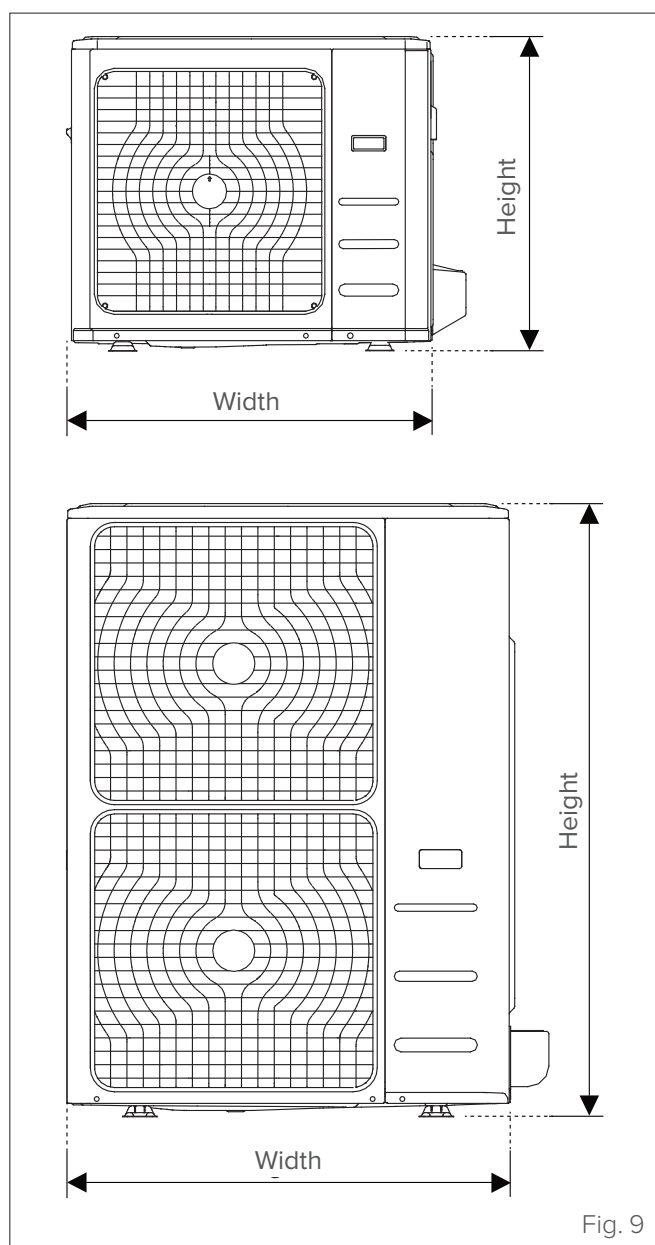

Fig. 9
- 1 Mark the positions of the holes for the brackets according to the measurements in the mounting dimensions diagram (see "Fig. 9").